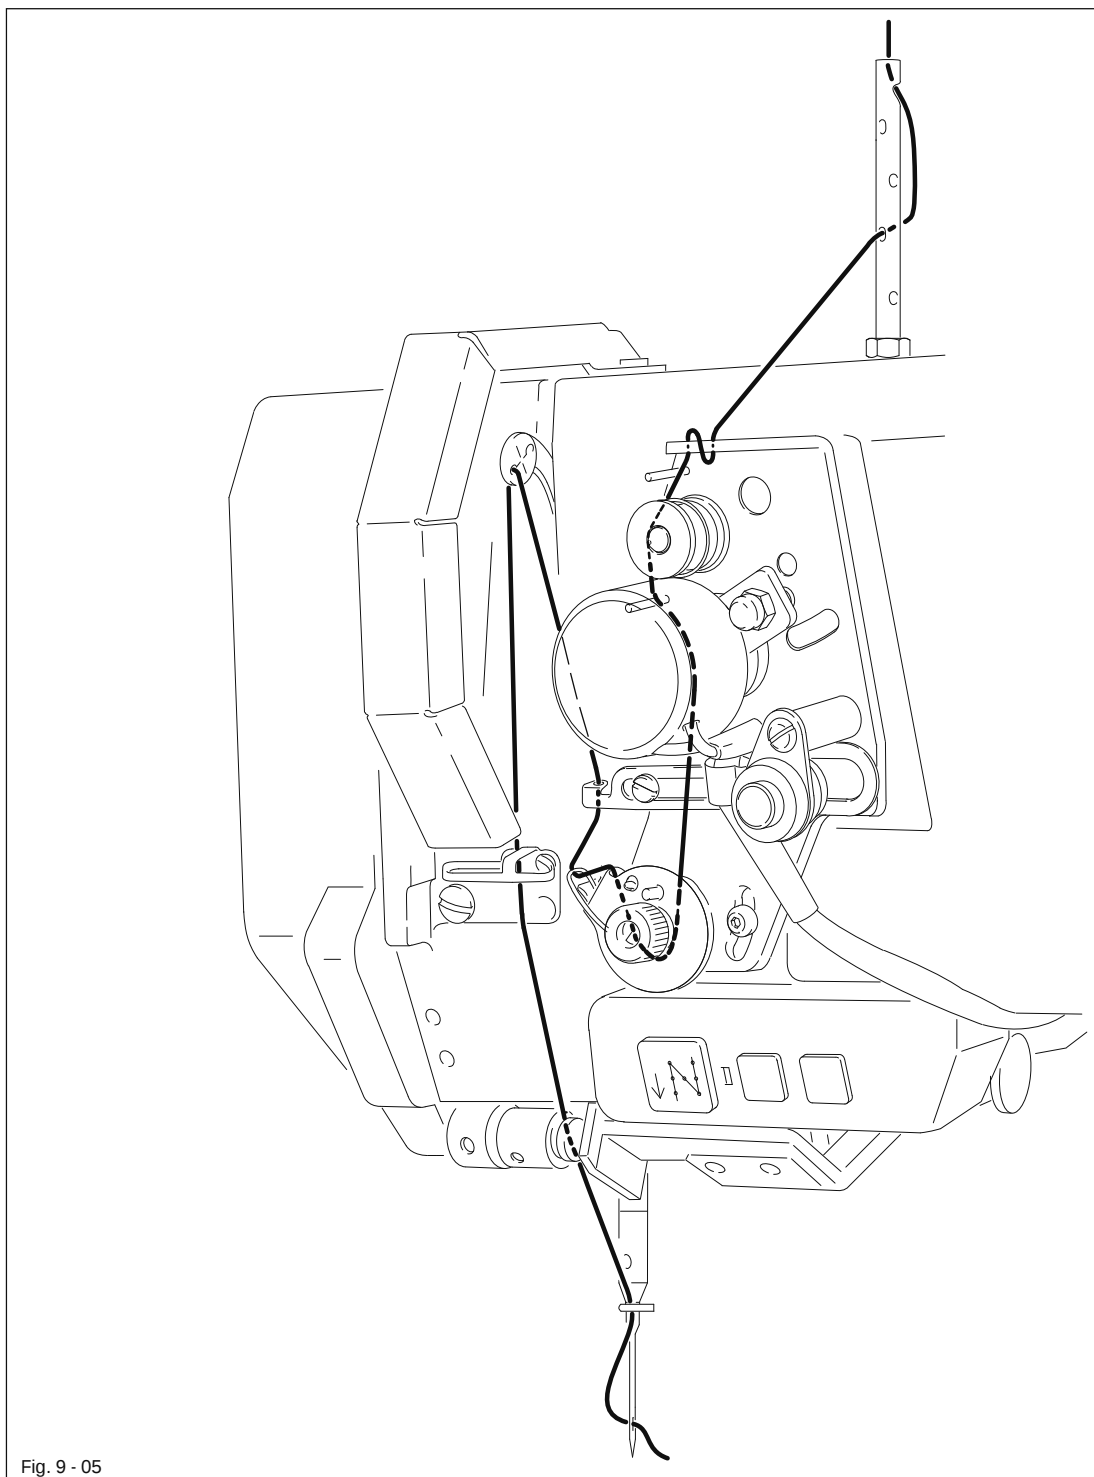

Fig. 9 - 05
- Thread the bobbin in accordance with Fig. 9 - 02 and wind it clockwise around bobbin 1 a few times.